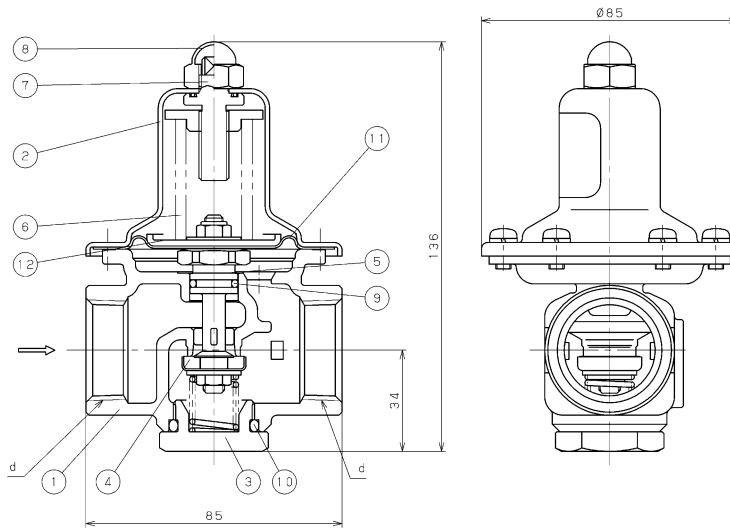

fig. 1
2.1 GD-41 Type, GD-41N Type (fig. 1, table 1, and table 2. Refer)